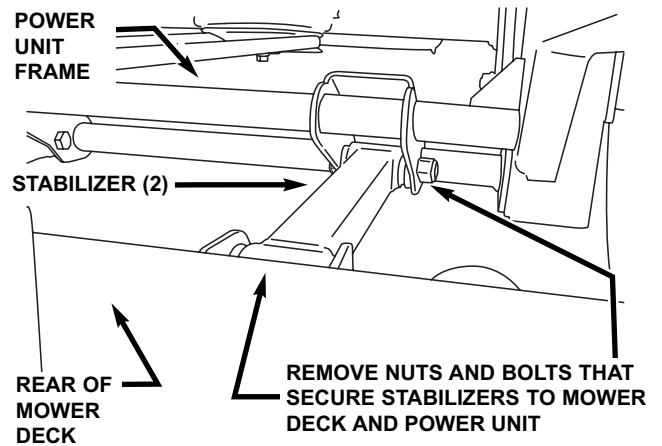

FIGURE 4.12
9. Remove bolts and nuts to disconnect both stabilizers from mower deck and power unit. See Figure 4.12.